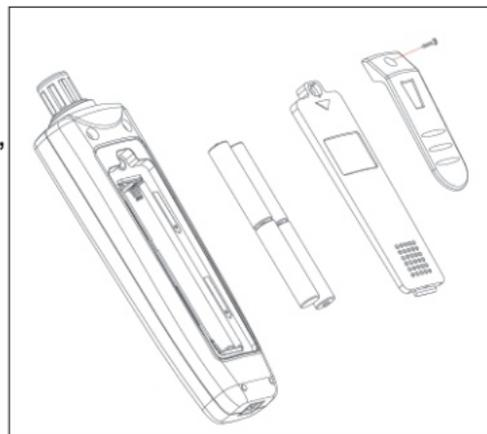

Figure 3
- Replacement of Batteries (as shown in figure 3)